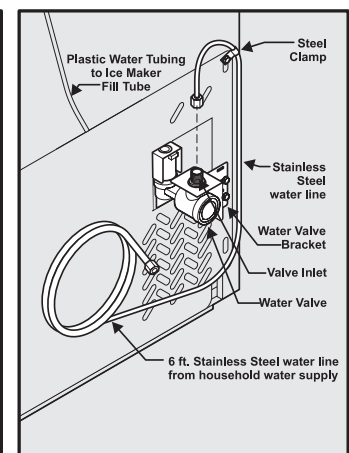

Figure 2
- 4 **If you use stainless steel tubing** - The nut and ferrule are already assembled on the tubing. Slide compression nut onto valve inlet and finger tighten compression nut onto valve. Tighten another half turn with a wrench; **DO NOT** over tighten. See Figure 2.